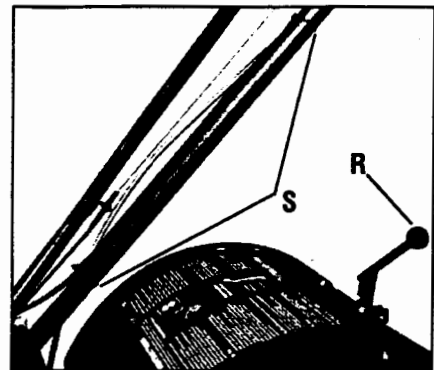

Figure 2-13: Attach wheel gear cable and reverse clutch cable with cable ties (S).
1. With the tiller on level ground, pull the Depth Regulator Lever (R, Figure 2-13) back and then slide it to the second notch from the top. **NOTE:** If the lever does not move, lift the tine hood flap and look for a plastic tie securing the lever in place. Cut and remove the tie.
2. With the unit on level ground, move the Depth Regulator Lever (R, Figure 2-13) up or down until the engine is level.
4. Secure the wheel gear cable and the reverse clutch control cable to the left-side handlebar with two plastic ties (S, Figure 2-13) located about two feet apart. Snip off any excess tie length with scissors.